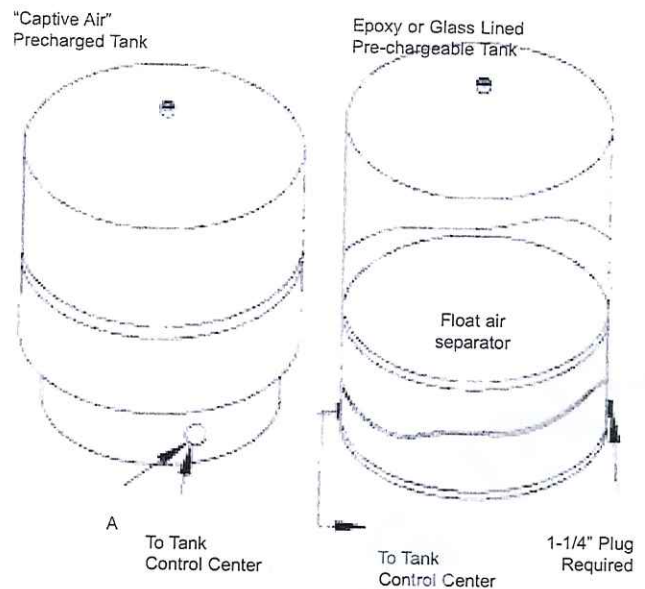

Figure 4 - Tank Openings
- Wrap the outside thread of the tank control center with teflon tape at position (A) and thread into tank opening (see Figure 4). Control center will thread directly into 1" opening in the side of the pre-charged tank.
- Install the pressure gauge with a 3/4" x 1/4" busing at the opening marked position (B) on the control center.
- Install a pressure switch or "loss of pressure" switch using 1/4" x 3" nipple at the opening position (C) in the control center.
- Connect pipe coming from well and pump to position (E) in the control center using the appropriate male plastic adapter and clamp, if polyethylene is used or thread directly into control center if ABS or steel pipe is used.
- Proceed from position (D) on the control center to house service lines.